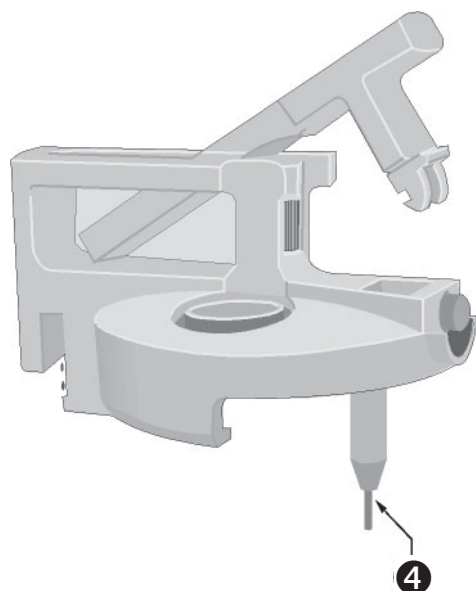

Fig. 14. Lid system with fill-level sensor
The **Atmoforte 350/Record 500** electronically monitors the fill level in the collection jar. When the max. fill level is reached, i.e., when the fluid level reaches the sensor (④, Fig. 14) the pump switches off, 5 short audio signals sound and the  indicator (②, Fig. 13) starts blinking. When the aspirated substance creates large amounts of foam, we recommend to add the foam protection to prevent that the pump shuts off prematurely. As soon as the sensor is no longer in contact with the liquid (e.g. after inserting the double socket nipple in the second collection jar, if present), the pump restarts.